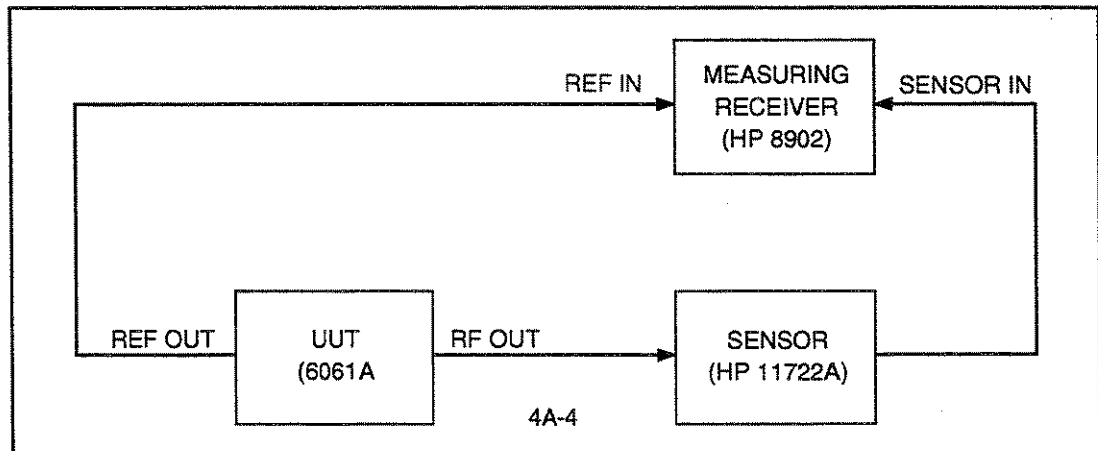

Figure 4A-4. Alternate-Level Accuracy Equipment Setup
- b. Connect all instruments as shown in Figure 4A-4.